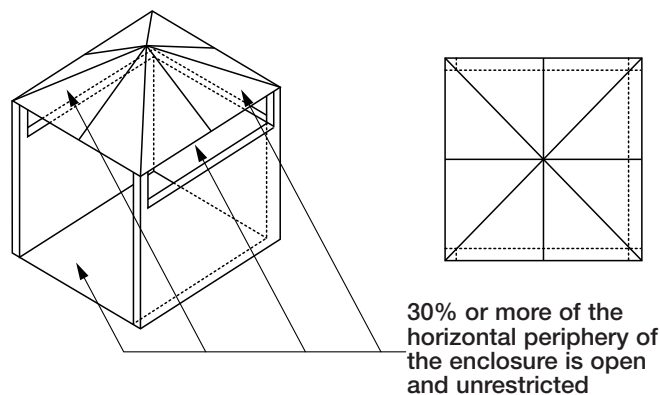

Figure D.4 - Outdoor area - Example 4
3. An appliance is considered to be outdoors if installed with shelter no more inclusive than with in a partial enclosure that includes an overhead cover and three sidewalls, as long as 30% or more of the horizontal periphery of the enclosure is permanently open. All openings must be permanently open; sliding doors, garage doors, windows, or screened openings are not considered as permanent openings. (See Figure D.4 & D.5)